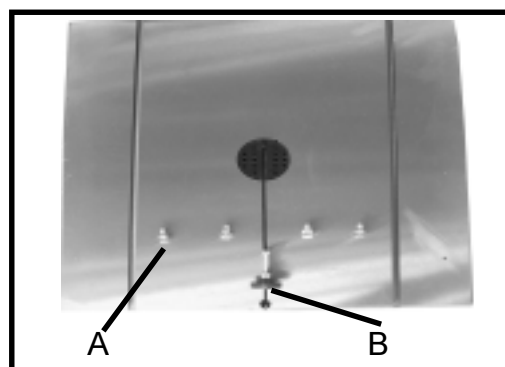

Fig.2
Mount the working table to the trunnion using the supplied (4) hex bolts and (4) washers (A--Fig. 2).
Using Hex socket screw, bushing, washer and wingnut (B--Fig. 2) for the working table flatness.